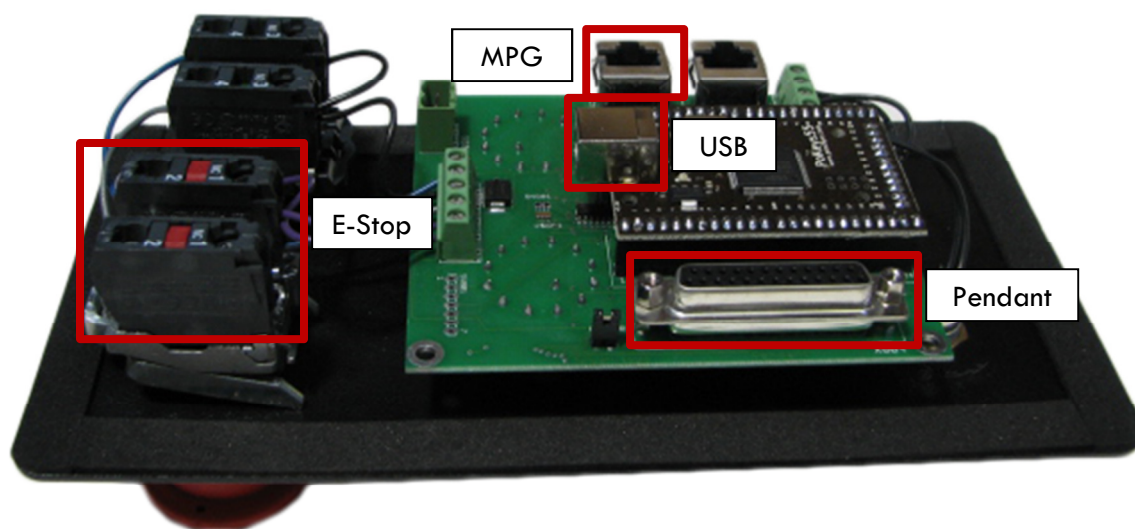
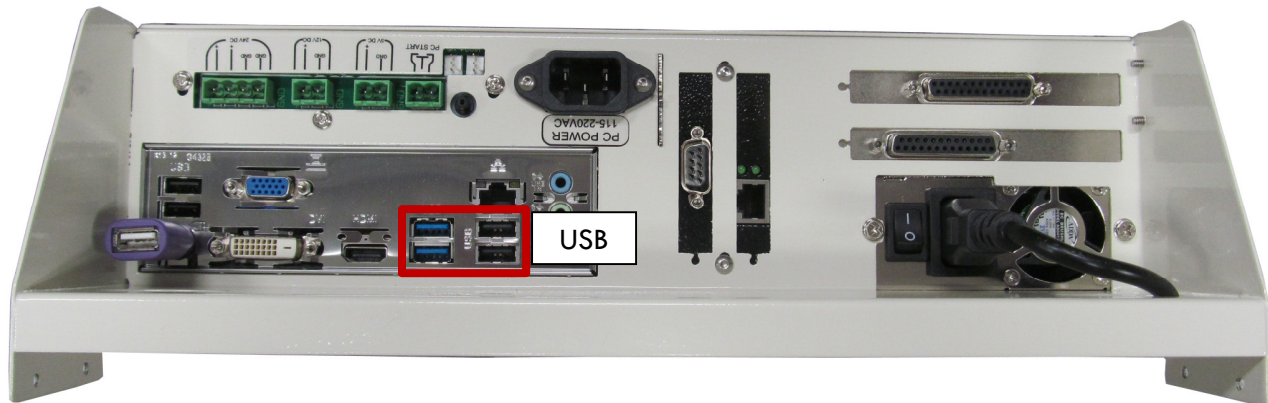
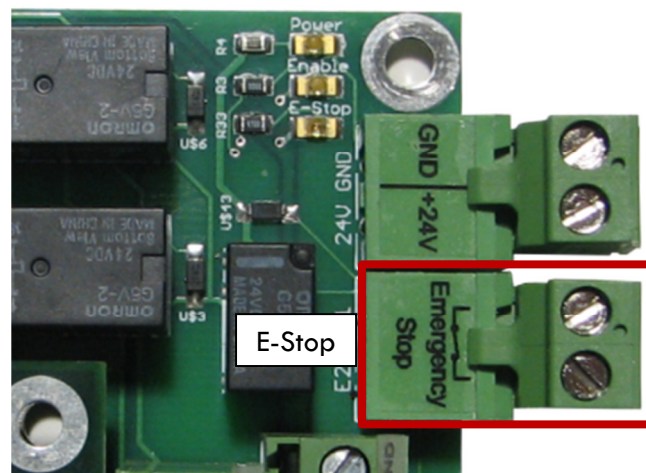
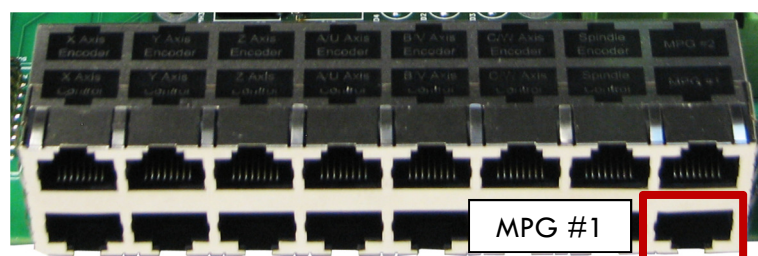

FIGURE 1 - BACK OF OPERATOR PANEL
FIGURE 2 - CONTROL USB WIRING CONNECTIONS
FIGURE 3 - APOLLO E-STOP CONNECTION
FIGURE 4 - APOLLO III MPG SOCKET
1. The USB cable runs from the back of the operator panel (see Figure 1) to the control (see Figure 2).
2. The E-Stop circuit goes from the back of the mushroom E-Stop button (see Figure 1) to the motion controller E-Stop connection (see Figure 3 for an example).
1. The 25 pin pendant cable plugs into the back of the operator panel (see Figure 1).
- b. Apollo III: An Ethernet cable must be run from the MPG plug on the operator panel (see Figure 1) to MPG #1 on the Apollo III board (see Figure 4).
- c. Interpreter 1000: An Ethernet cable must be run from the MPG socket on the operator panel (see Figure 1) to an open encoder on the Interpreter 1000 (see Figure 6). See Figure 5 for the cable pin out.